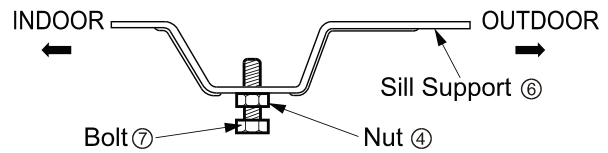

Fig. 3
3. Loosely assemble the Sill Support ⑥ using the parts . (Fig. 3)